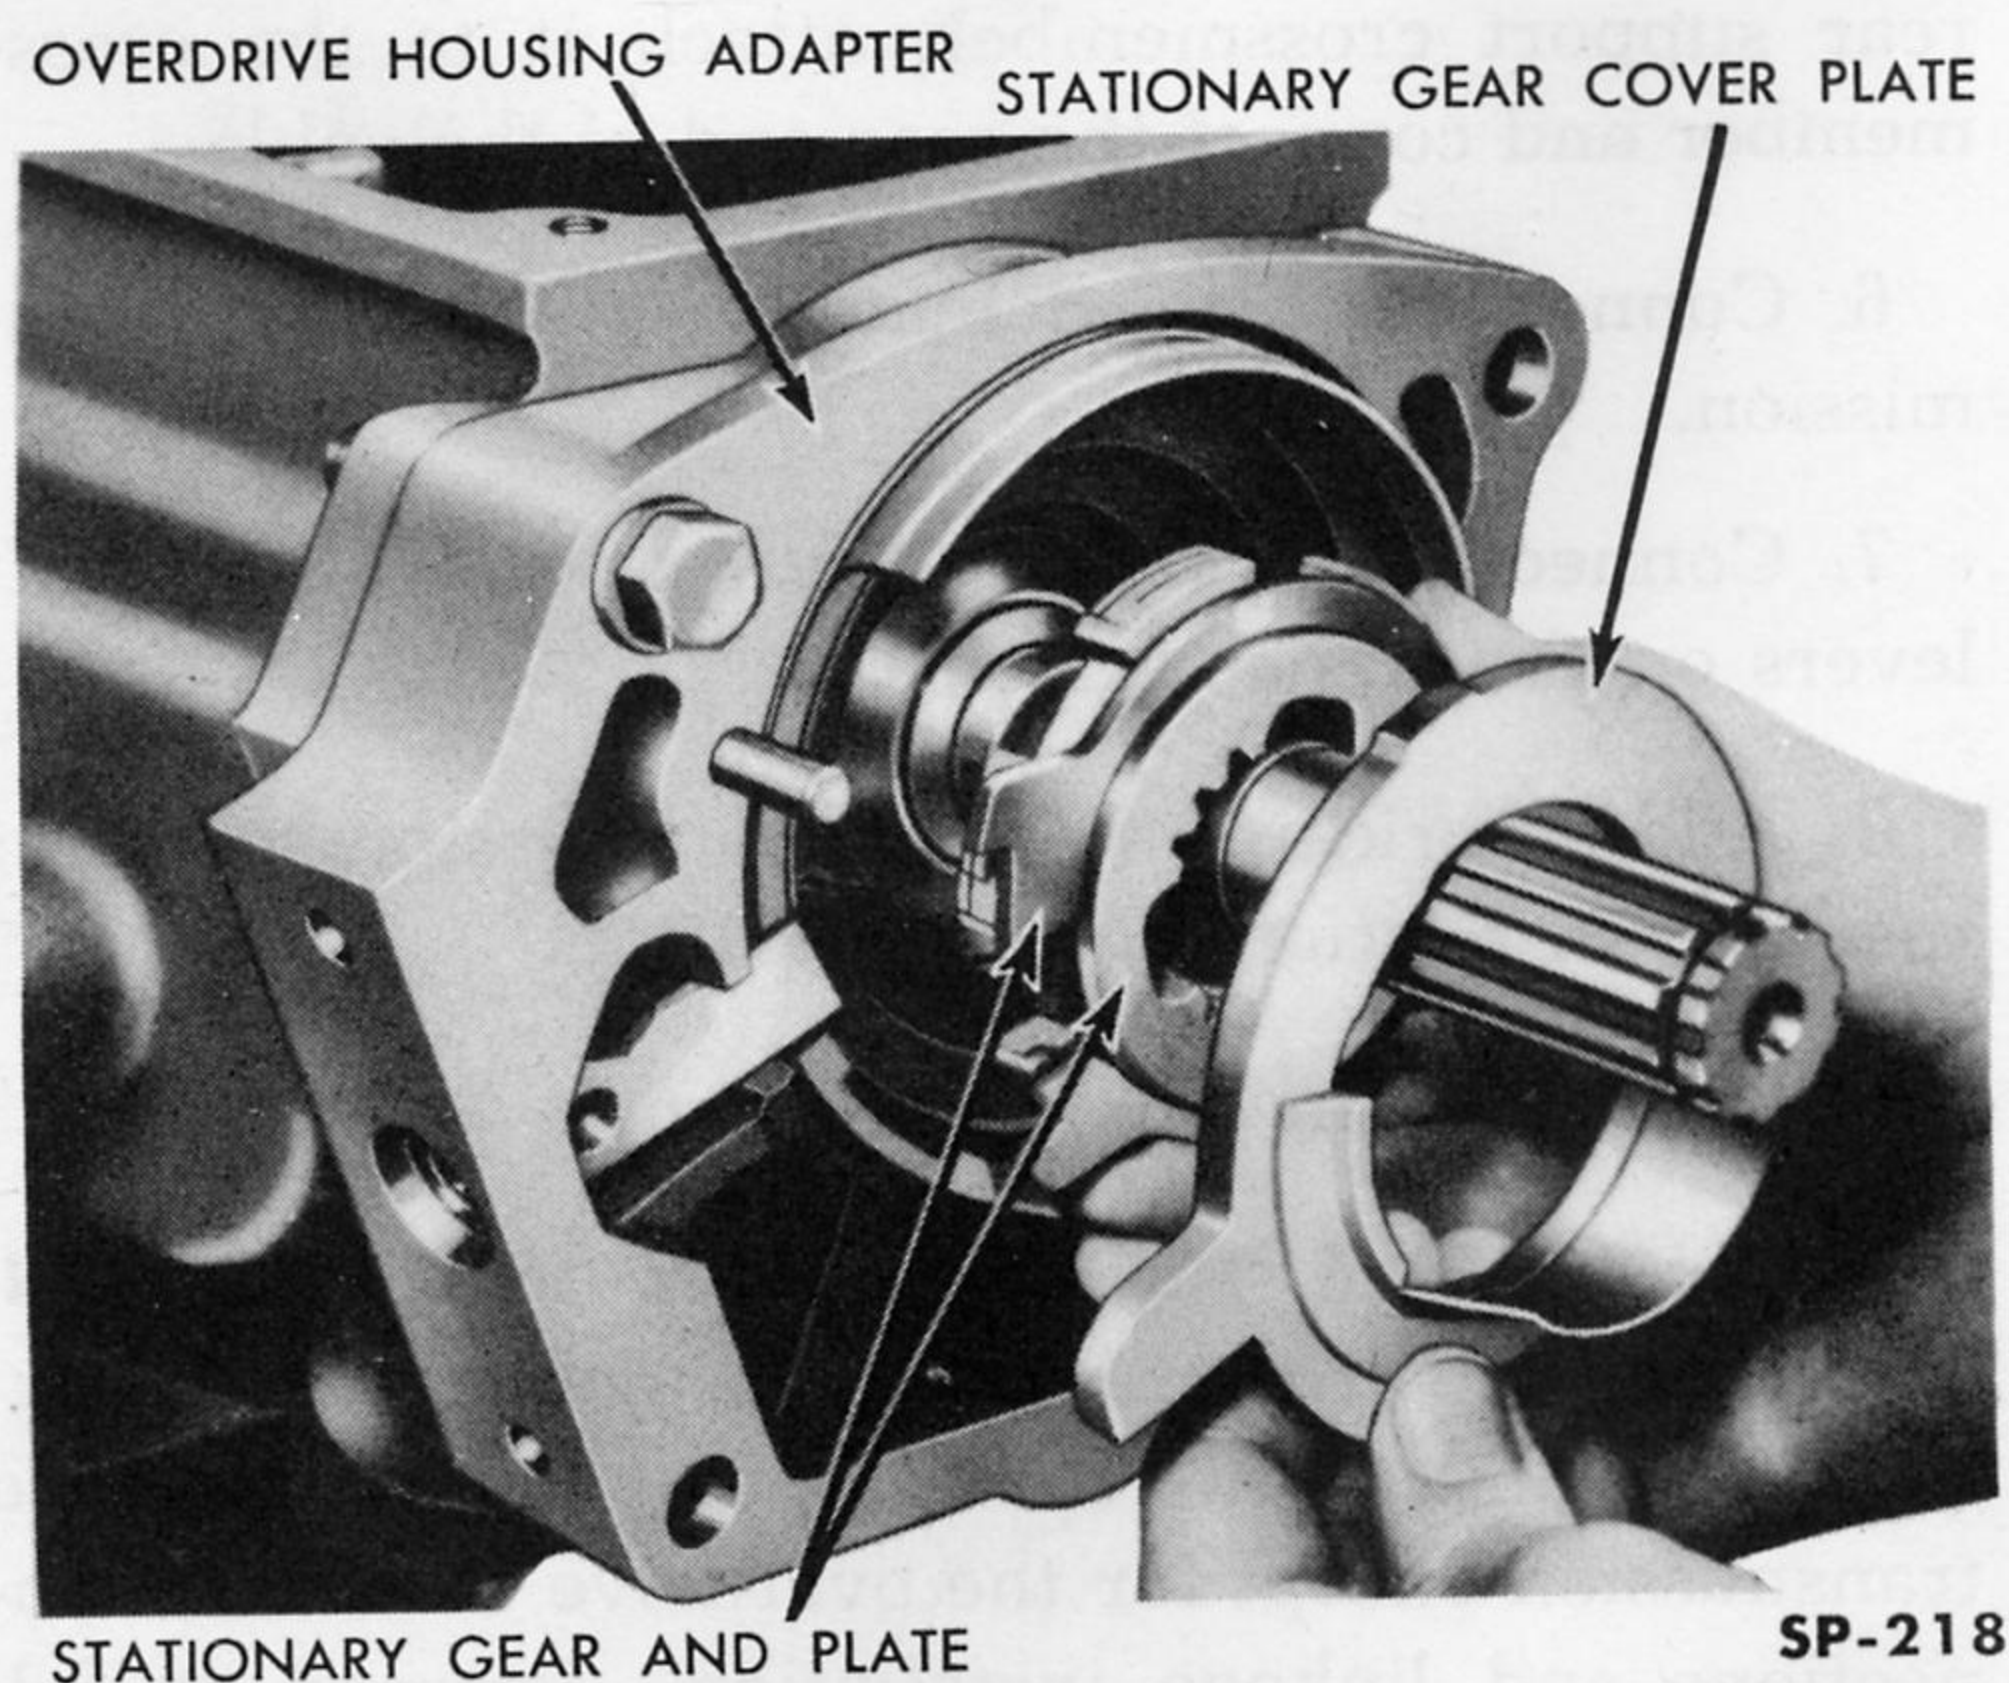

Fig. 221—Installing Gear And Plate Assembly In Adapter
1. Install the gear and plate assembly on the overdrive transmission shaft and seat it in the adapter housing (Fig. 221). Note the position of the plate.
3. Install the cover plate on the overdrive transmission shaft and seat it in the adapter housing. Refer to Fig. 221.